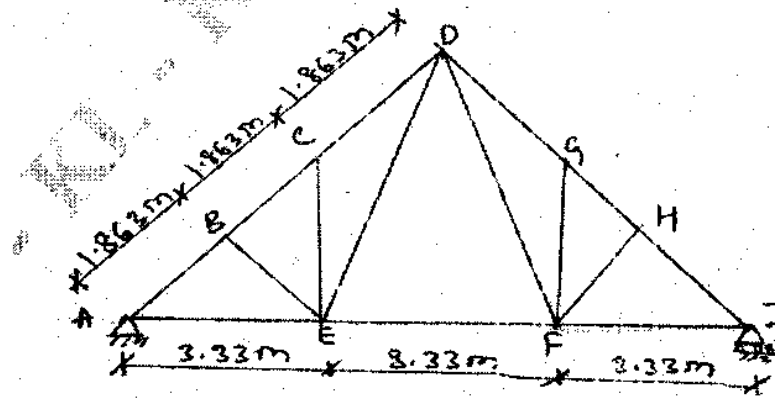

Figure 1
- 6 The center line of a roof truss is shown in figure 1. The magnitude and nature of forces under service conditions are given below. Design top chord, bottom chord members and support A. Assume the left support to be hinged and the right support to be on roller. Reaction at each support = 60kN. Draw to a suitable scale.